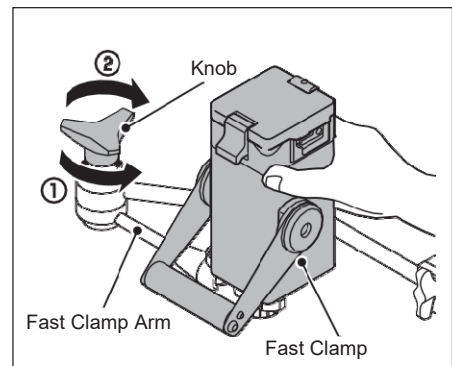

Figure 1-56
1. Holding the Fast Clamp by hand, loosen the knob of the Fast Clamp Arm by turning it counter-clockwise (Figure 1-56 a), and then move the Fast Clamp to any position. After moving to the position, secure it by turning the knob of the Fast Clamp Arm clockwise. (Figure 1-56 b)